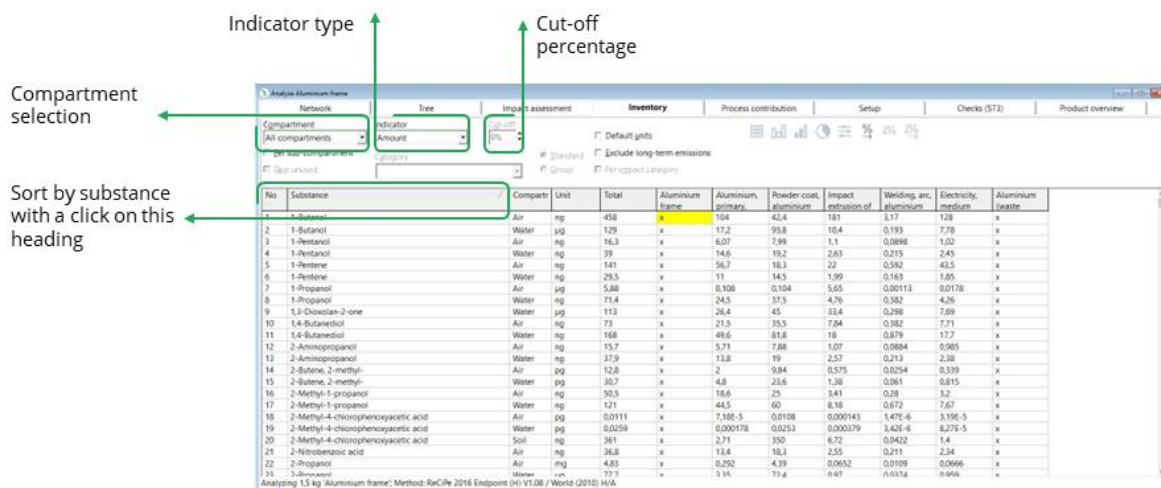

Figure 3.14 Analyze Aluminium frame, tab Inventory
To see the environmental impacts caused by the different inventory substances for the different materials and processes involved in the production of the aluminium frame click on **Inventory** tab. You will see a window similar to Figure 3.14.
- 1) You can sort the order of the substances with a click on the Substance heading (shown in Figure 3.14).